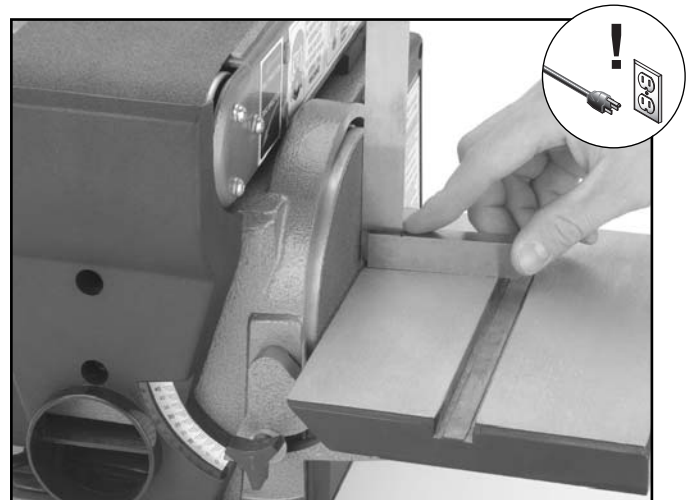

Figure 7. Squaring disc table.
2. Using a try square or machinist's square, set one edge on the table surface and the other against the face of the disc as shown in **Figure 7**.